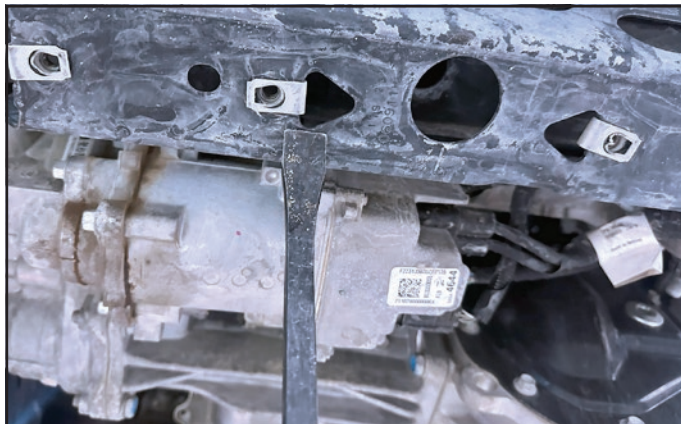

FIG. 2
4. With the factory nut clips removed, installed the provided nut clips. Gather the provided bolts and washers placing some loctite on the threads. Then hold the diff skid in to place [FIG. 2]